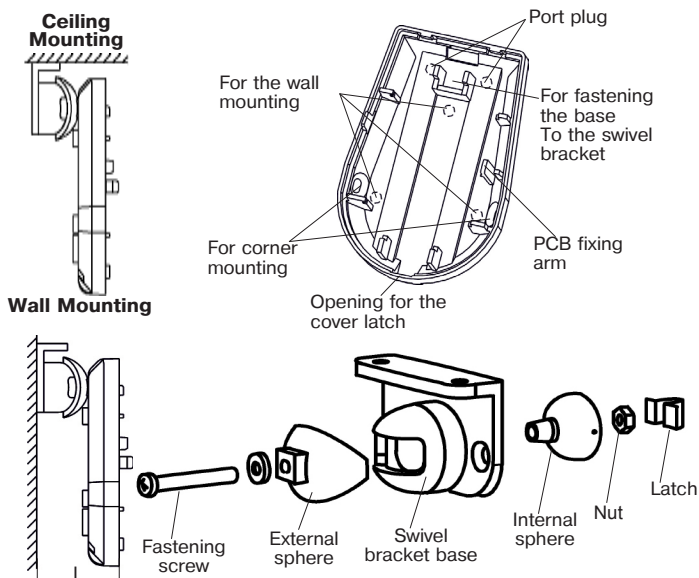

Figure 2 – The Detector Base and the Swivel Bracket
- Unfasten the latch through the opening, which is situated downside the detector case by means of screwdriver and put off the detector cover (Figure 2).
- Drill the holes in the base of the detector for wiring and fastening the detector (Figure 2).
- After the detector fastening to the swivel bracket, turn the detector case vertically in accordance with the chosen installation height. Measure the distance (L) from the wall to the detector base edge with the cover opened (Figure 2, Table 2).